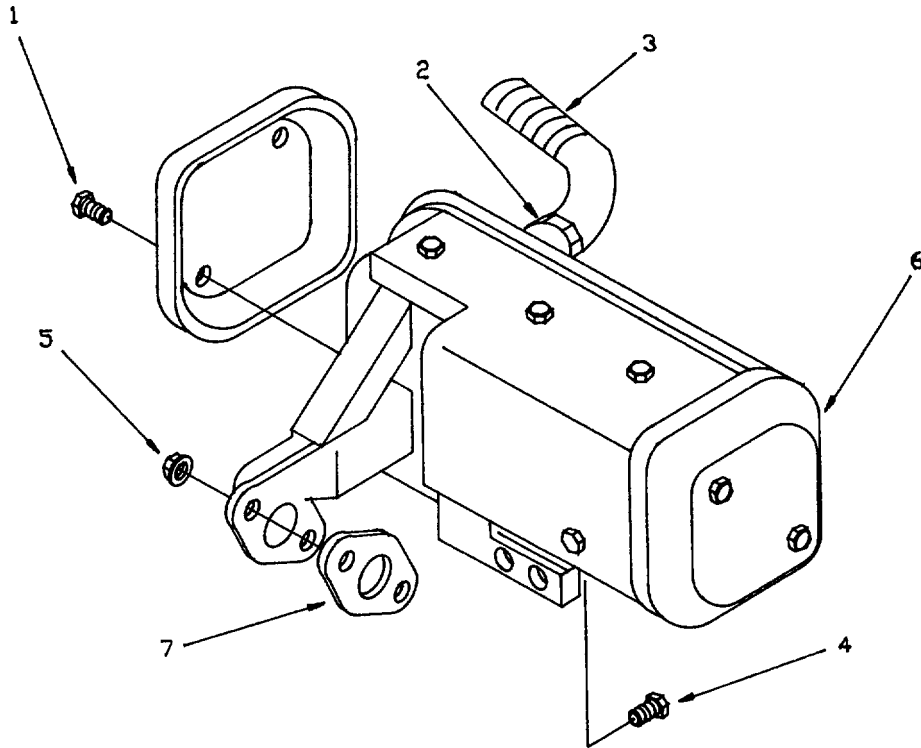

Figure 4-8. Exhaust Muffler.
- (1) Loosen set screw (1, Figure 4-8) and pipe union (2) of discharge hose (3).
- (2) Remove extension washer plain nut (5) holding exhaust muffler (6) to diesel cylinder head.
- (3) Remove cap screws (4) holding exhaust muffler (6) to engine block.
- (4) Remove exhaust muffler (6).
- (5) Remove gasket (7).